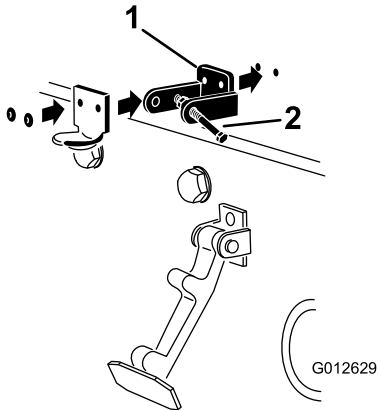

Figure 8
3. While aligning the mounting holes, position the CE lock bracket and the hood latch bracket onto the hood. The lock bracket must be against the hood (Figure 8). Do not remove bolt and nut assembly from the lock bracket arm.